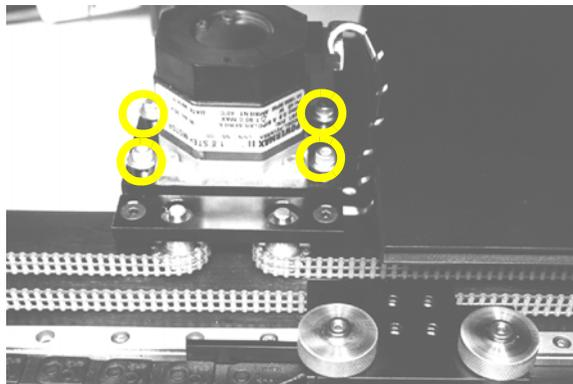

Figure 6-6—Location of four motor mounting screws
- 3b) If the belt moves more than 1/2 inch off its path, loosen the four motor mounting screws (see Figure 6-6), and then push the motor away from the belt until the belt tension is correct.